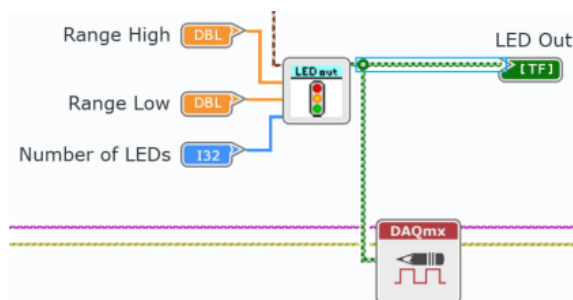

Figure 5-38 Delete the wire between the LED subVI and the LED indicator.
24. If you watch the front panel and the LEDs, they should be reversed in how they are displayed. The physical LEDs and the front panel indicator can be matched in code easily. To swap the order of the front panel indicator, click on the wire shown in Figure 5-38 and press delete.